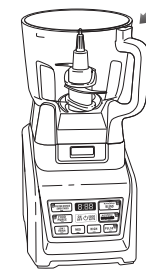
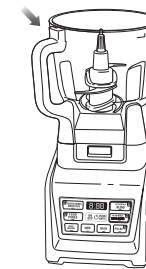

Fig. 5a
Fig. 5b
- 9 Holding the lid by the handle in the upright position, place it on top of the pitcher aligning the triangle (▼) located on the lid with the triangle (▲) located on the pitcher's handle. **(Fig. 5a)** Press the handle down until you hear a click. The triangles on the lid and the blender handle **MUST** be aligned in order for the blender to turn on. **(Fig. 5b)**
- 7 The bowl can be placed on the motor base two ways; the handle can be on the front right corner or the front left corner. (Fig. 5a, Fig. 5b)